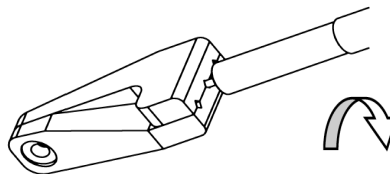

Fig. 3
3. Remove dielectric residue from center conductor exposed beyond cable outer conductor. Use care not to scratch surface by using an approved non-metallic center conductor cleaning tool or a Plexiglas scraper with squared or serrated edge works well, Figure 3.